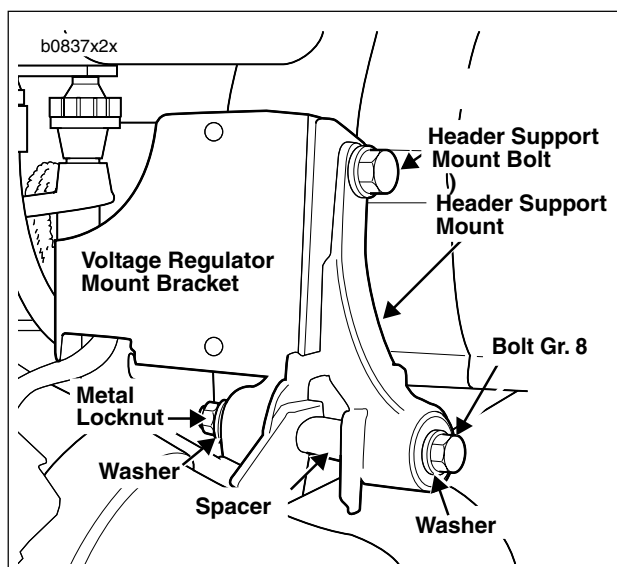

Figure 2-96. Header Support Mount
3. See Figure 2-96. If removed, attach header support mount to crankcase.